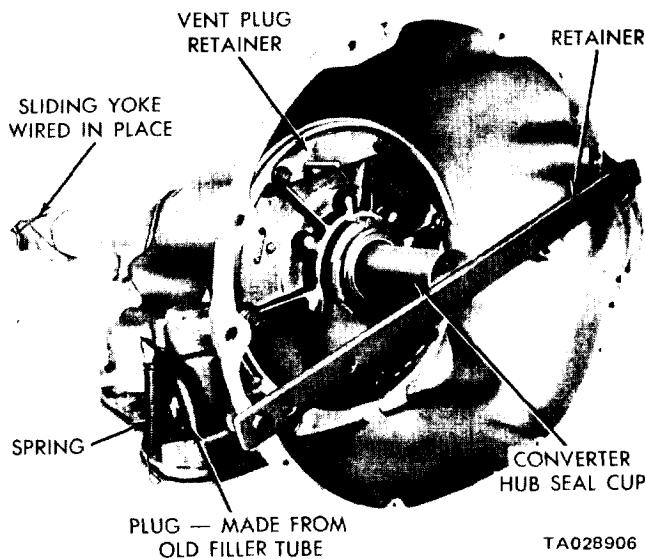

Figure 4-19. Transmission Prepared for Test.
(1) Install the filler tube bore plug, the propeller shaft yoke (tie in with cord or wire), the flared tube fitting cap (on front cooler line fitting), and the pipe nipple (in the case at rear cooler line fitting) (figure 4-19).